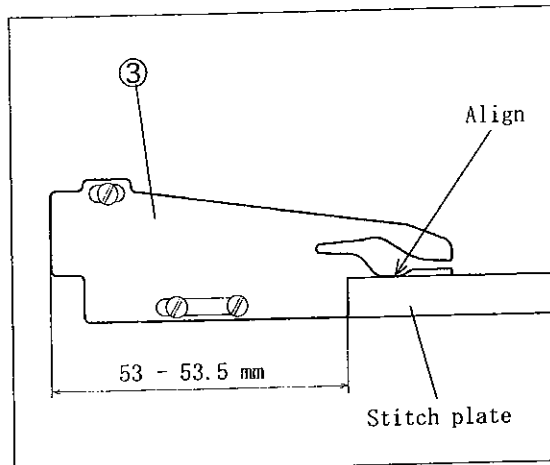

Fig. 4-9
- (1) Install the suction pipe support① in such a way that the distance between the rear end of the suction pipe cover③ and stitch plate is 53 - 53.5 mm.
- (2) Install the suction pipe② so that it is level and at a height where the bottom line of the suction opening of the suction pipe cover③ and top surface of the stitch plate are flush. (Fig. 4-9)
- (3) Adjust the engagement of the upper trimming knife④ and lower trimming knife⑤.